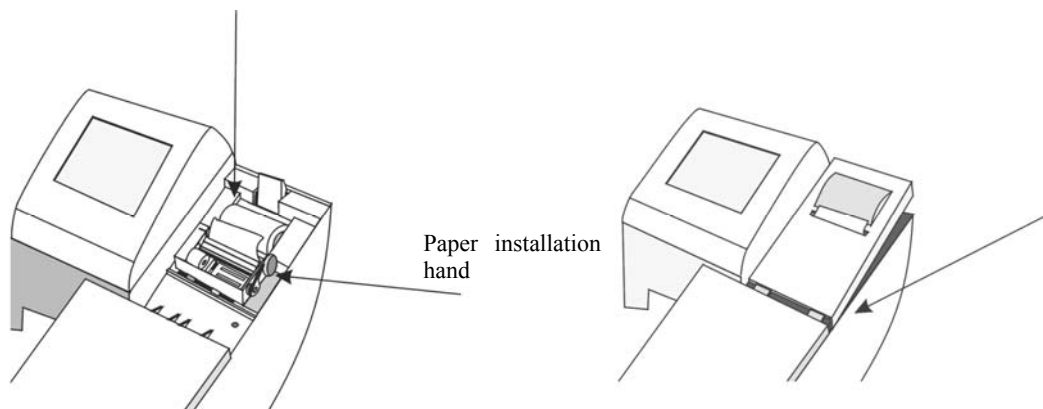

Figure 2-3-8
- (1) Choose the thermal printing paper with a width of 57mm and a diameter less than 50mm;
- (2) Press the hook at the back of the printer cover, and then lift the cover and take it off (Figure 2-3-8);
- (3) Put the printing paper in the box; unfold the printing paper to make the paper end close to inside of analyzer;
- (4) Pull the paper installation hand and insert the printing paper into the printer. Pull the printing paper up and down and put down the hand when the printing paper moves smoothly; (The printing paper can be automatically pulled out by the printer when the analyzer is electrified.)
- (5) Put the paper through the outlet of the printer cover. Close the cover of printer.
When installing the printing paper, pull out the printing paper with shiny side up (Figure 2-3-8). Otherwise the test data cannot be printed.